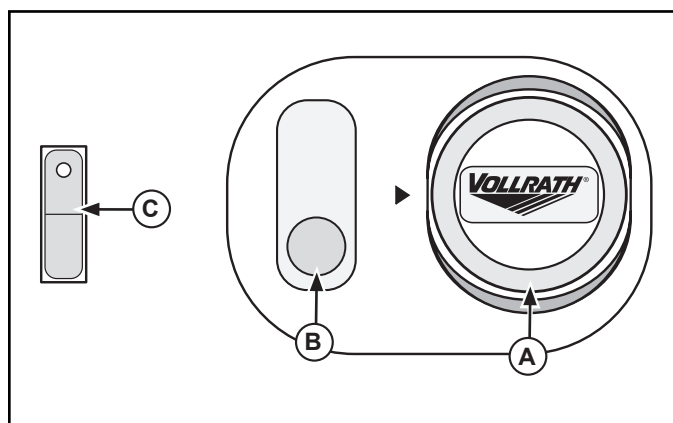

Figure 1. Controls (located on the back of the display cabinet).
1. Adjust the thermostat control (A) to the desired temperature; the pilot light (B) indicates when the elements are energized. See Figure 1.
2. Switch the light switch (C) to the "ON" position if desired.
4. Turn the thermostat control (A) to lowest setting, turn the light switch (C) to the "OFF" position and unplug unit. When removing hot food containers from unit use gloves, mitts or pot holders to protect hands.